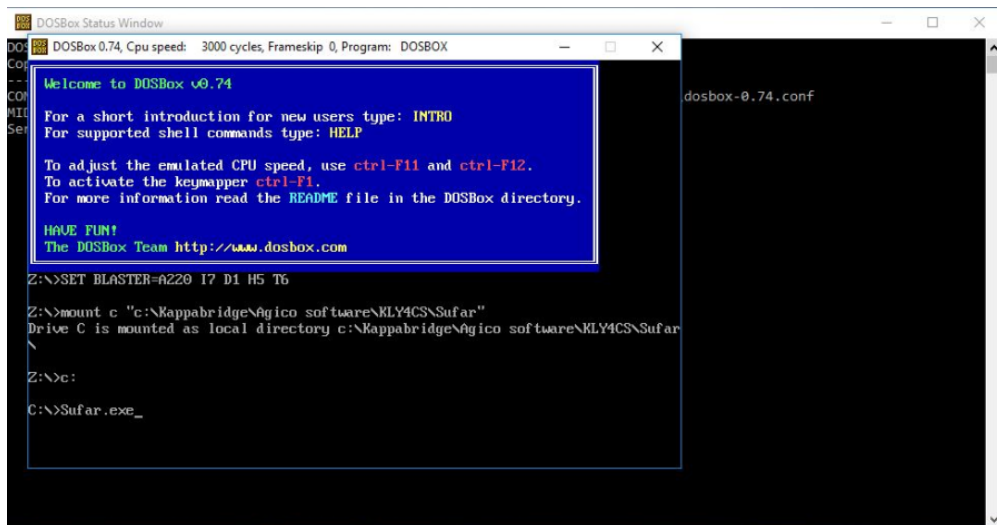

Figure 2 DOSbox.exe with commands for opening Sufar entered
- a. In the DOSbox 0.74 window that opens, the cursor should be flashing behind the prompt Z:\> All commands will be entered following a prompt of this type. Figure 2 illustrates what the screen will look like after all commands have been entered.